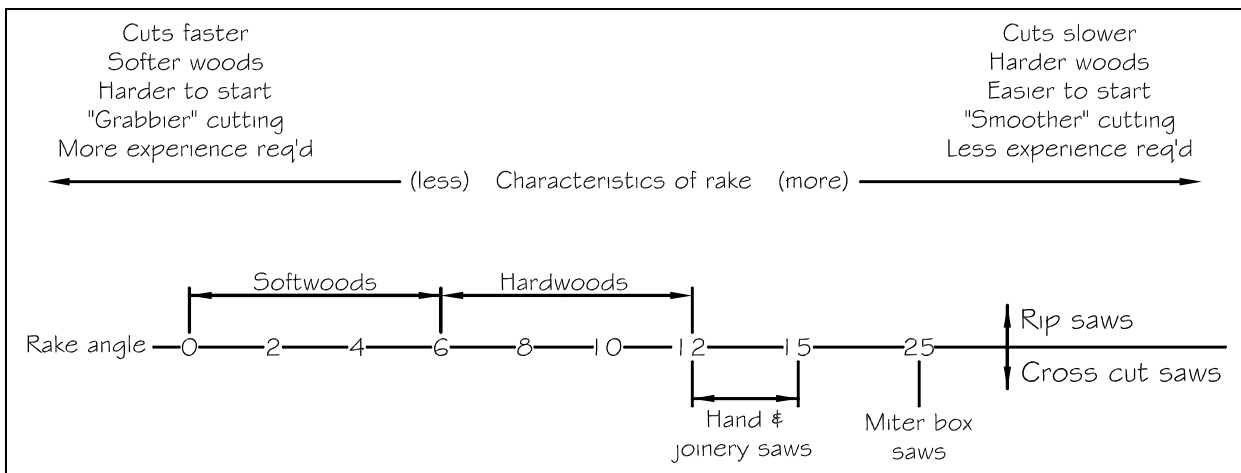

Figure 6. Guidelines for rake angles.
- ◆ **About rake.** Rake controls the aggressiveness of a saw. Figure 6 (page 6) summarizes general guidelines for rake angles; experiment to find the angles that work best for you.